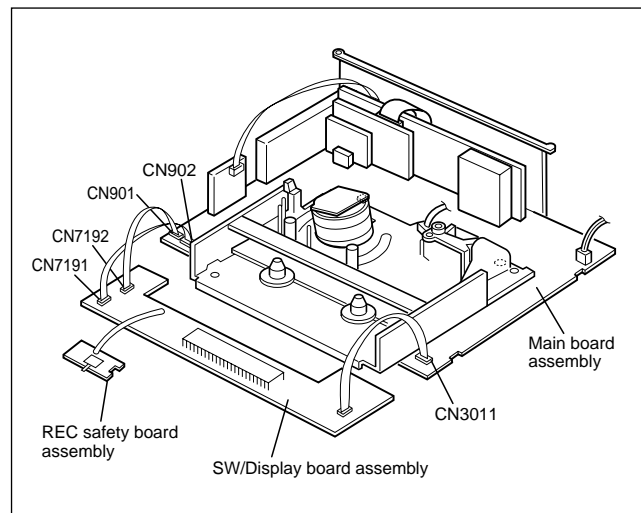

Fig. 1-4-3
- (8) Place the SW/Display board assembly and REC safety board assembly on the front side of the Mechanism and Main board assemblies which was removed at the step (6), then connect the flat wires into CN3011, CN901 and CN902 of the Main board assembly. (Refer to Fig. 1-4-3.)
1.4.3 Cassette loading and ejection methods in the "SERVICE POSITION"(See Fig. 1-4-3).
- (1) Insert a cassette halfway in the Cassette holder assembly.
- (2) Set the switch on the REC safety board assembly to ON (by pressing the switch).
- (3) As soon as the cassette starts to be loaded, set the switch on the REC safety board assembly to OFF (by releasing the switch).
- (4) Now the desired operation (recording, playback, fast forward, rewind, etc.) is possible in this status (the status shown in Fig.1-4-3).
- **When performing diagnostics of the tape playback or the recording condition in the "SERVICE POSITION", enter the desired mode before turning the set upside down, and do not change the mode when performing diagnostics while the set is placed upside down. If you want to switch the mode, turn the set to the normal position (the status shown in Fig.1-4-3).**
- (5) The switch on the REC safety board assembly does not have to be operated when ejecting a tape. But be sure to turn the set to the normal position before ejecting the tape.